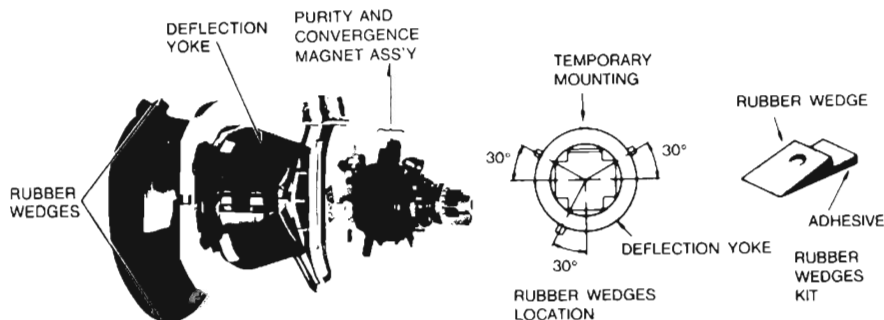

Figure 8
CAUTION: Convergence and Purity have been factory aligned. Do not attempt to tamper with these alignments. However, the effects of adjacent receiver components, or replacement of picture tube or deflection yoke may require the need to readjust purity and convergence. Convergence magnet assembly and rubber wedges need mechanical positioning following the figure 8. Before attempting any convergence adjustments this receiver should be operated for at least fifteen minutes. If adjustment is required the adjustments should be made in the following sequence.
2. Adjust DY to obtain a better convergence in the circumference by orbital movement of the front of the yoke, then secure the DY in appropriate position by placing the wedges as illustrates in figure 8. Tighten screw holding the DY. Stick 3 adhesive tapes on wedges as shown in figure 8.